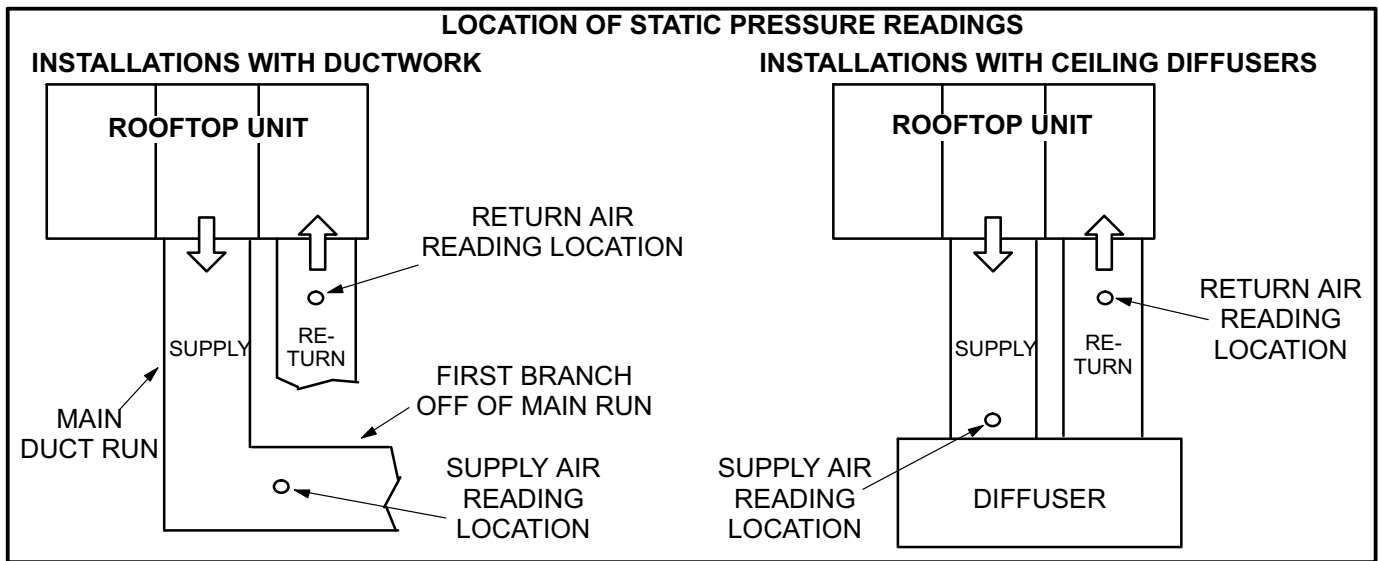

FIGURE 16
- 2- With all access panels in place, measure static pressure external to unit (from supply to return). Blower performance data is based on static pressure readings taken in locations shown in figure 16.